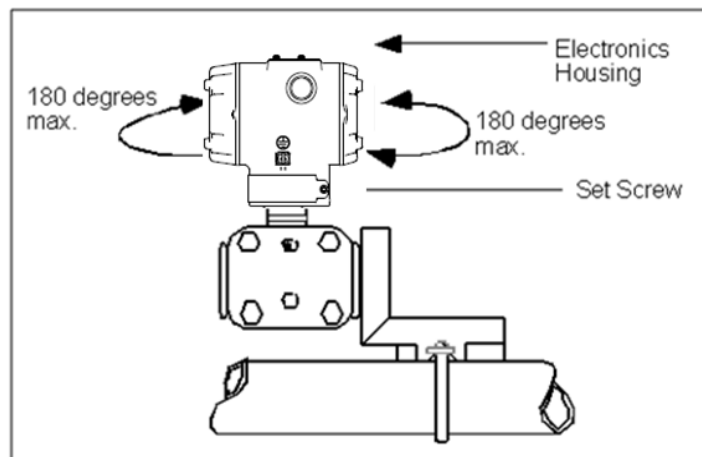

Figure 6 – Rotating the Electronics Housing
3. Loosen the set screw on the outside neck of the Transmitter one (1) full turn.
4. Rotate the Electronics housing a maximum of 180° left or right from the center to the position you require, and tighten the set screw 13 to 15 lb-in (1.46 to 1.68 Newton meters), using a 4mm metric hex key wrench. See the following example and Figure 6.